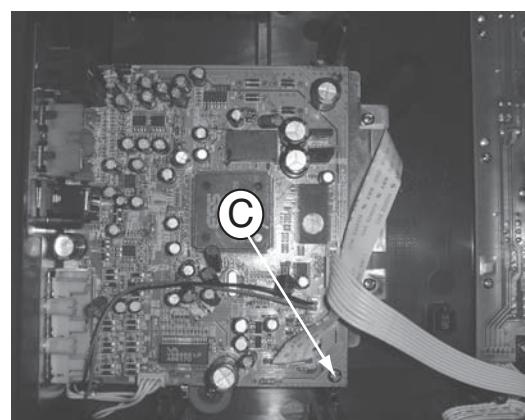

Figure 3
- 3) Loosen 1 screw " C " at the main board as shown in figure 3.